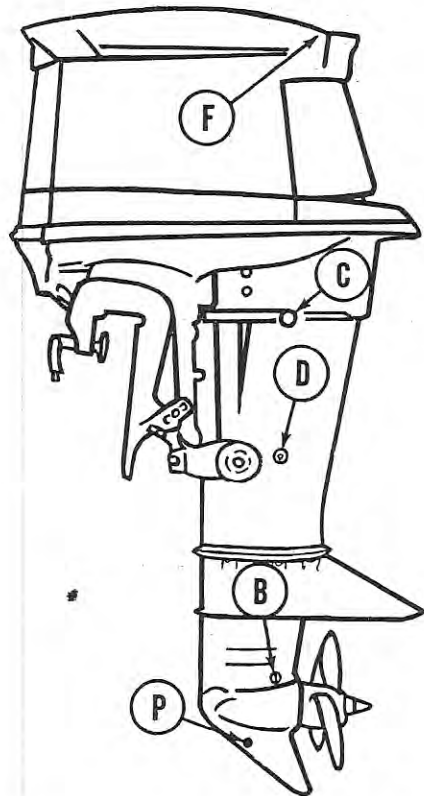

Fig. H1 — Port side view of the HOME-LITE Four-Cycle outboard motor showing drain and filler plug location for power head and lower unit.
Refer to Fig. H1 for location of oil reservoir drain (D) and oil level indicator (C) plugs. Filler cap is located under shroud on rear, port side of power head as shown at (F). The oil filter cartridge is located on starboard side of block and can be renewed after removing shroud.